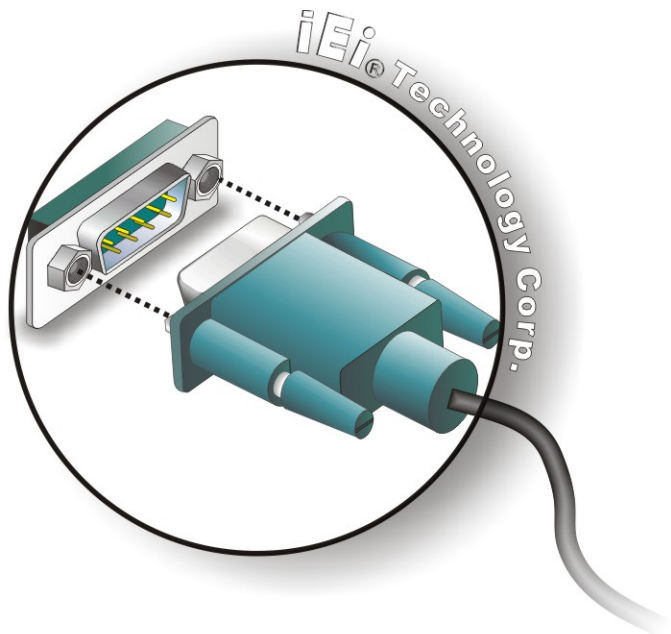

Figure 4-10: Serial Device Connector
Step 2: Insert the serial connector. Insert the DB-9 connector of a serial device into the DB-9 connector on the bottom panel. See **Figure 4-10**.